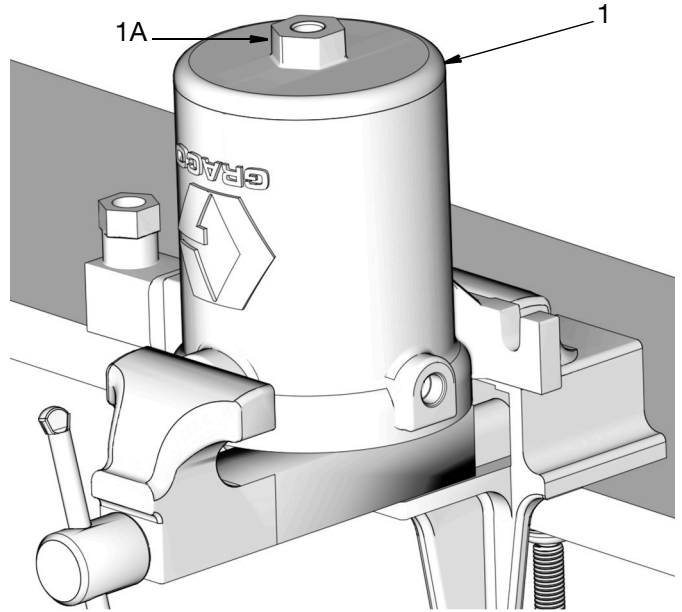

FIG. 20
18. Examine the piston assembly (33) for scratches and other wear and damage. If damaged, replace the pump piston assembly (33).
19. Reposition the air motor cylinder in vise to access the bottom of the air motor cylinder (FIG. 20).
20. Secure a wrench on the cover nut (1a). Turn it counter-clockwise loosen and remove the cover (1) from bottom or air motor cylinder. (FIG. 20).